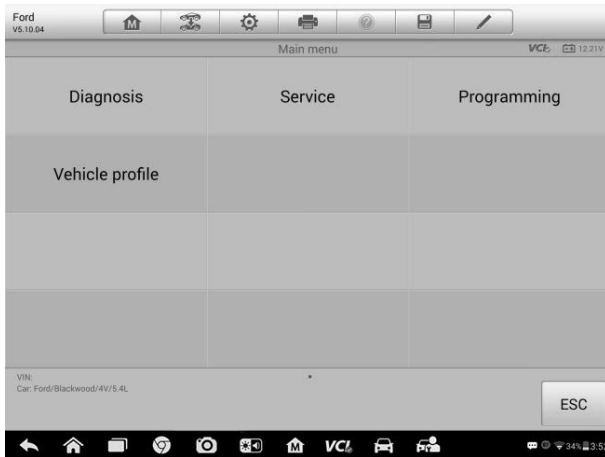

Figure 4-3 Sample Vehicle Diagnostics Screen
5. Tap **Done**. The vehicle will be identified in a few seconds, and once the matching is successful, the system will guide you to the Vehicle Diagnostics screen directly (Figure 4-3).
The Vehicle Diagnostics screen (*Figure 4-3*) has three main options: